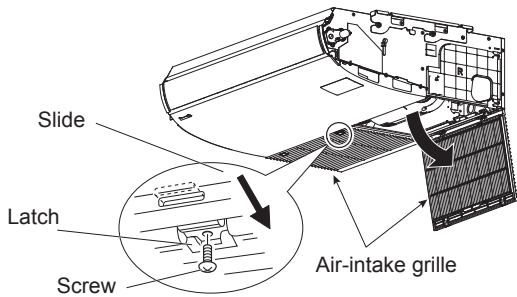

Fig. 8-1
- (1) Remove the screw, and slide the latch to open the air-intake grille. (Fig. 8-1)